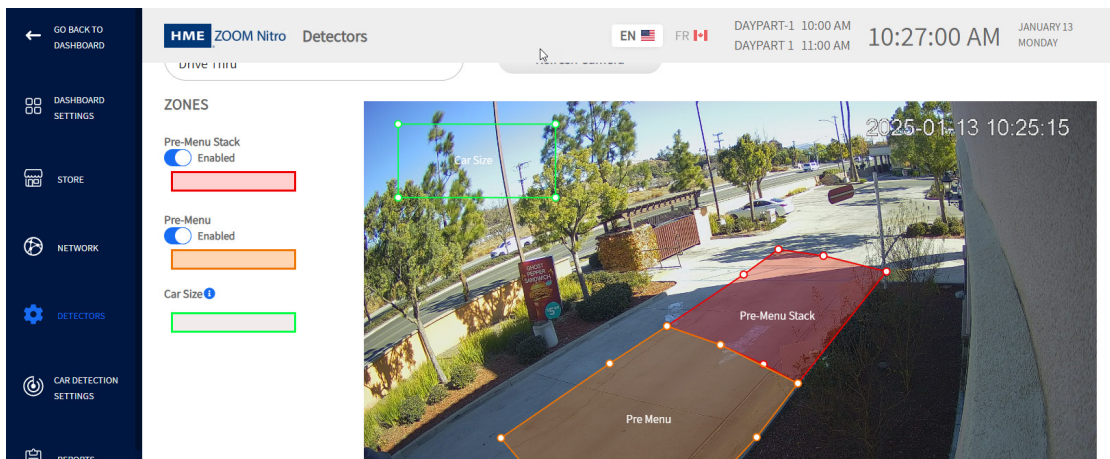

Fig. 29
13. When you move the cursor over a box, it turns into a hand that lets you drag it into position. The polygons have eight adjustable vertices, one on each corner and one on each side. After moving the box into position, grab any vertex and begin adjusting the box to match the Pre-Menu and Pre-Menu Stack zones you desire to capture. Fig. 29 shows both zones drawn to capture the drive-thru lane events.